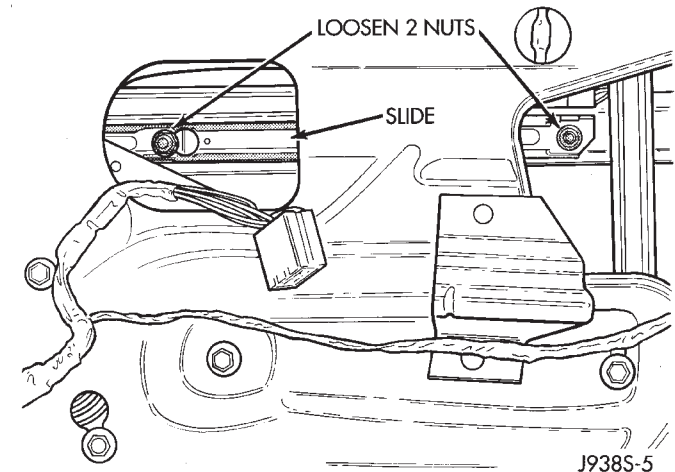

Fig. 8 Rear Door Window Track
(1) Remove door trim panel and waterdam. If necessary, refer to removal procedure.
(2) Position window glass to access window track nuts (Fig. 8).
(3) Loosen 2 window track nuts and slide track off of window (Fig. 8).
- (1) Lower window glass.
- (2) Pry window beltline molding from flange. Remove molding from door.
- (3) Remove window weatherstrip seals from door.
- (4) Remove trim panel and waterdam from door inner panel. If necessary, refer to removal procedure.
- (5) Remove window track nuts and slide track off of window (Fig. 8).